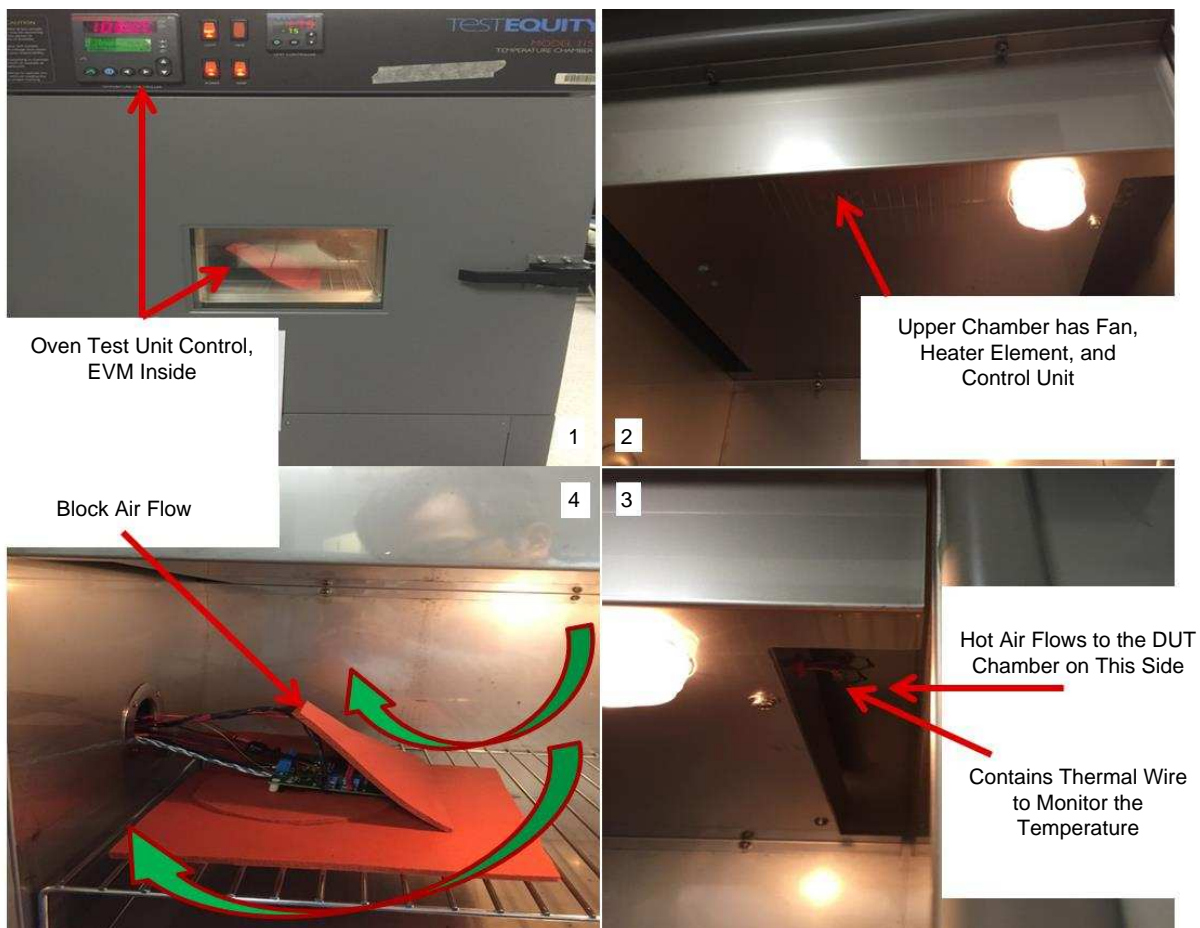
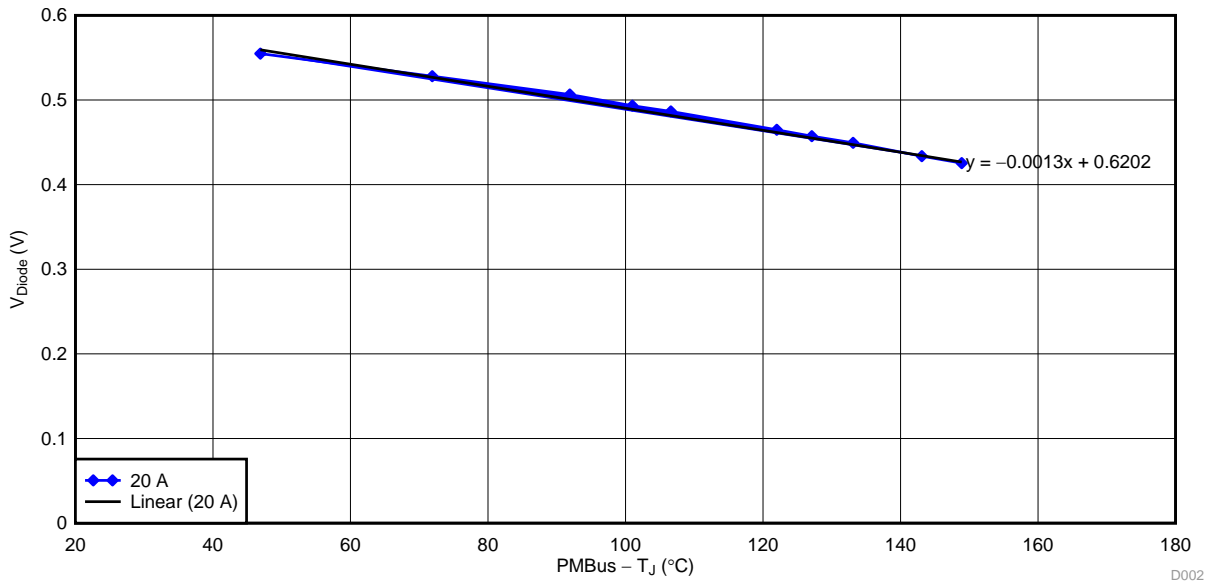
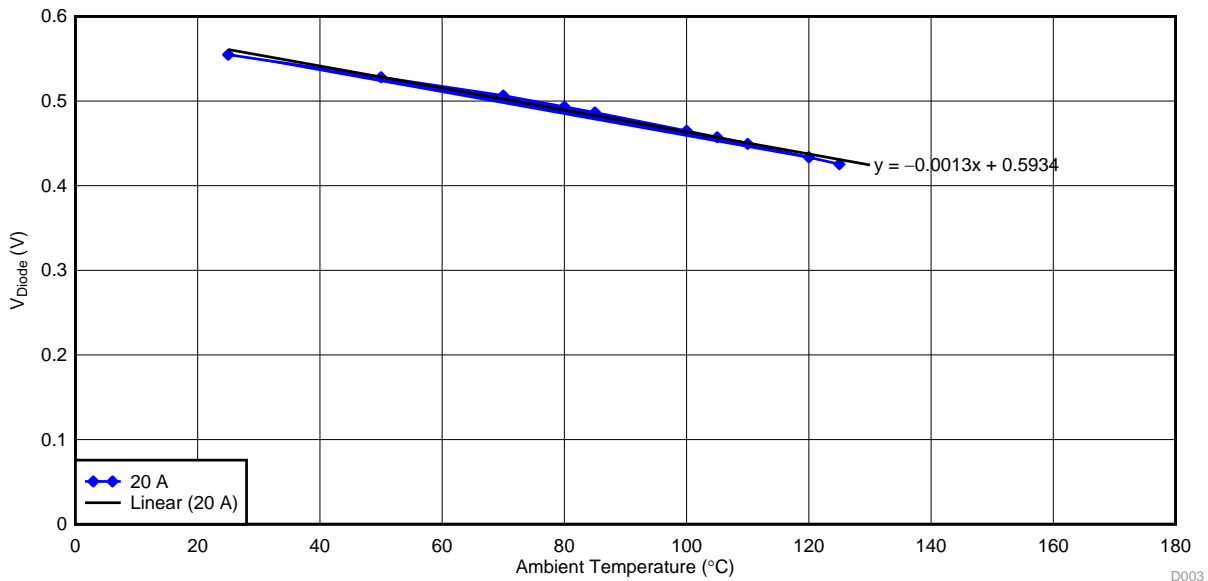

Figure 2. Evaluation Board Inside Oven Temperature Set Up
Figure 3. Junction Temperature vs Diode Voltage
Figure 4. Ambient Temperature vs Diode Voltage
The first step must graph the relationship between V_{Diode} and T_{PMBus} columns as shown in Figure 3. With the trend line of this graph, solve the V_{Diode} at 125°C junction temperature. This calculated diode voltage should be close to the measured diode voltage in Table 1. The next step must graph the relationship between V_{Diode} and T_a columns as shown in Figure 4. Again, with the trend line of this graph, solve the ambient temperature at 125°C junction temperature through the V_{Diode} in the previous step. These two graphing methods must repeat for all the output load ranges. At the end, one can graph the natural convection SOA curve as shown in Figure 2. This SOA curve is considered as the worst case of the SOA graph.
The airflow unit is too big to be inside the oven and has difficulty controlling the uniform air velocity flow across the evaluation board if the unit is in the oven. At result, the airflow unit is located in the typical room temperature and is not in the regulated ambient temperature environment as in the natural convection case. To calculate the ambient temperature of the SOA curve with airflow, it is necessary to calculate the relative difference of diode voltage in Table 3 to the line equations in Figure 3 and Figure 4. The procedures follow:
2. Subtract the result, in step 1, from the calculated V_{Diode} of Figure 3 at 125°C junction temperature.
Finally, graph all of the SOA curves as shown in Figure 2. For the device without the ability to read the junction temperature through the PMBus data lines, the calculation procedures are the same by using the thermal coupling wire data column. For more accurate calculations with this type device, there is a temperature difference between the junction temperature and the top surface of device. At result, the calculation V_{Diode} of Figure 3 should have included this difference.